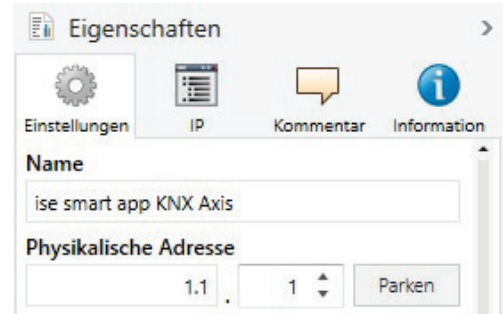

Figure 2 Device properties dialogue of the ETS
2. Display the properties of the device in the sidebar of the ETS as shown in Figure 2 Device properties dialogue of the ETS